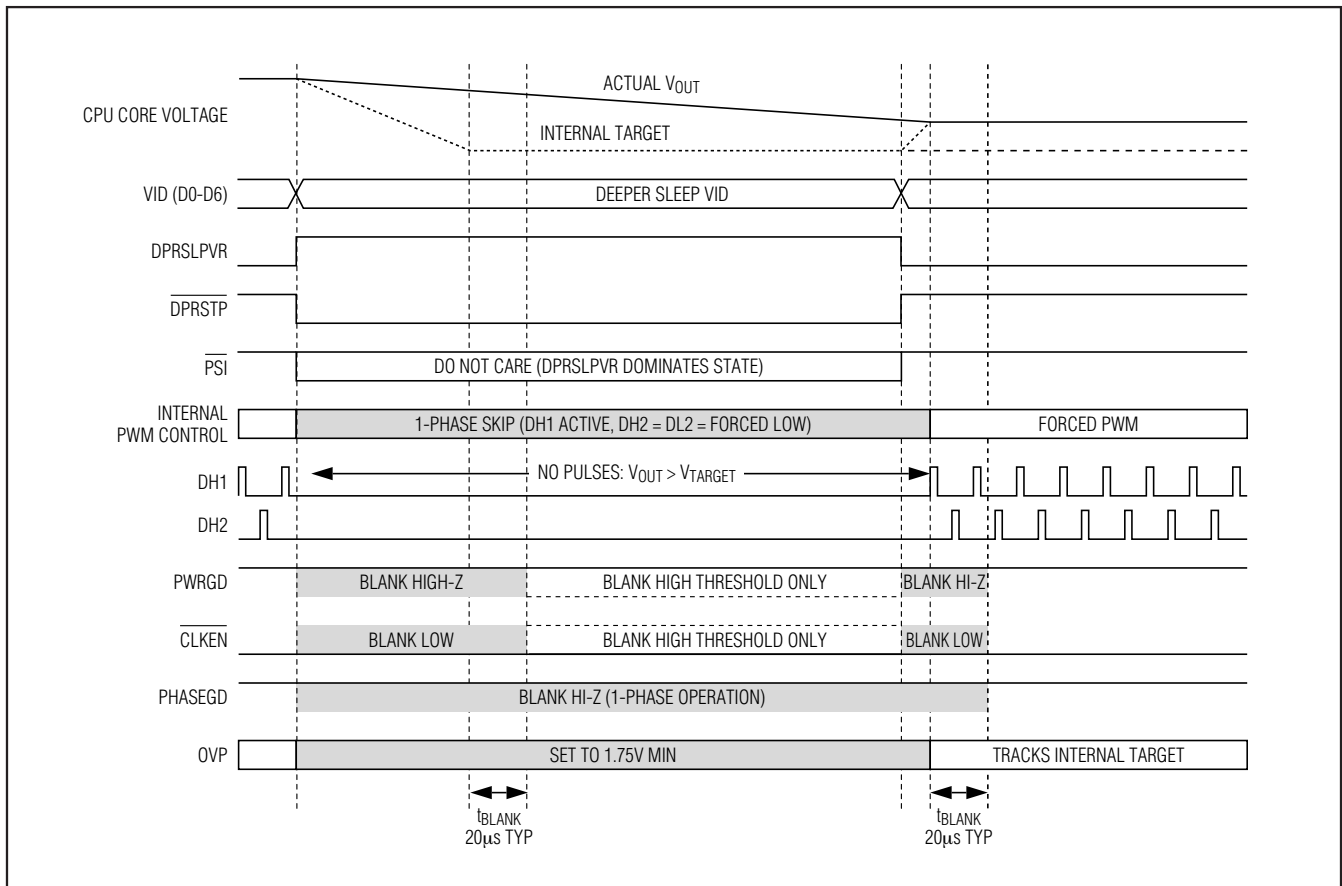

Figure 4. C4E (C4 Early Exit) Transition
When DPRSLPVR goes high, the MAX17410 immediately disables phase 2 (DH2 and DL2 forced low), blanks PHASEGD high impedance, and enters pulse-skipping operation (see Figures 4 and 5). If the VIDs are set to a lower voltage setting, the output drops at a rate determined by the load and the output capacitance. The internal target still ramps as before, and PWRGD
**Fast C4E Deeper Sleep Exit:** When exiting deeper sleep (DPRSLPVR pulled low) while the output voltage still exceeds the deeper sleep voltage, the MAX17410 quickly slews ( $50mV/\mu s$  min regardless of  $R_{TIME}$  setting) the internal target voltage to the DAC code provided by the processor as long as the output voltage is above the new target. The controller remains in skip mode until the output voltage equals the internal target. Once the internal target reaches the output voltage, phase 2 is enabled. The controller blanks PWRGD, PHASEGD, and  $\overline{CLKEN}$  (forced high impedance) until  $20\mu s$  after the transition is completed. See Figure 4.